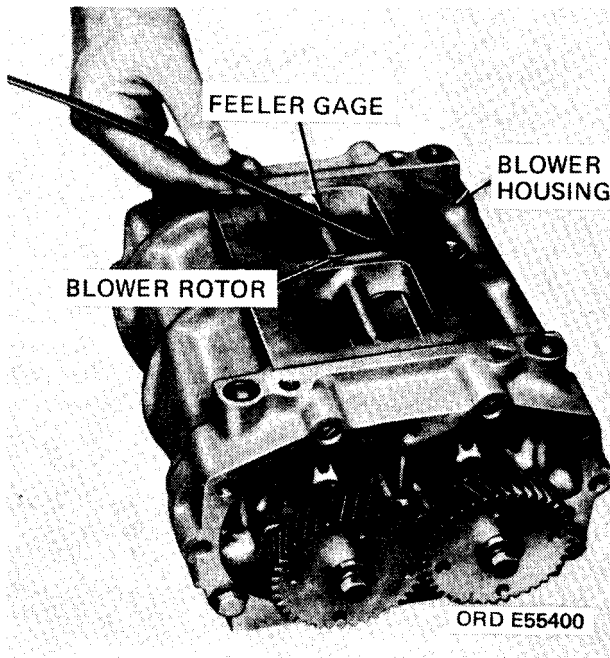

Figure 3-21. Measuring rotor lobe to housing clearance.
(10) After the blower rotors and gears have been installed, the blower rotors must be timed. When properly positioned, the blower rotors run with a slight clearance between the rotor lobes and walls of the housing.
(11) The clearance between the rotors may be established by moving one of the helical gears out or in on the shaft relative to the other gear by adding or removing shims (22) between the gear hub and the rotor spacers.
(12) It is preferable to measure the clearance with a feeler gage comprised of two or more feelers, since a combination is more flexible than a single feeler gage. Take measurements from both the inlet and outlet sides of the blower.
(13) Measure the clearance between the rotor lobes and the housing as shown in figure 3-21. Take measurements across the entire length of each rotor lobe to be certain that a minimum clearance of 0.004 inch exists at the air outlet side (B, fig. 3-20) and a clearance of 0.0075 inch exists at the inlet side (A, fig. 3-20).